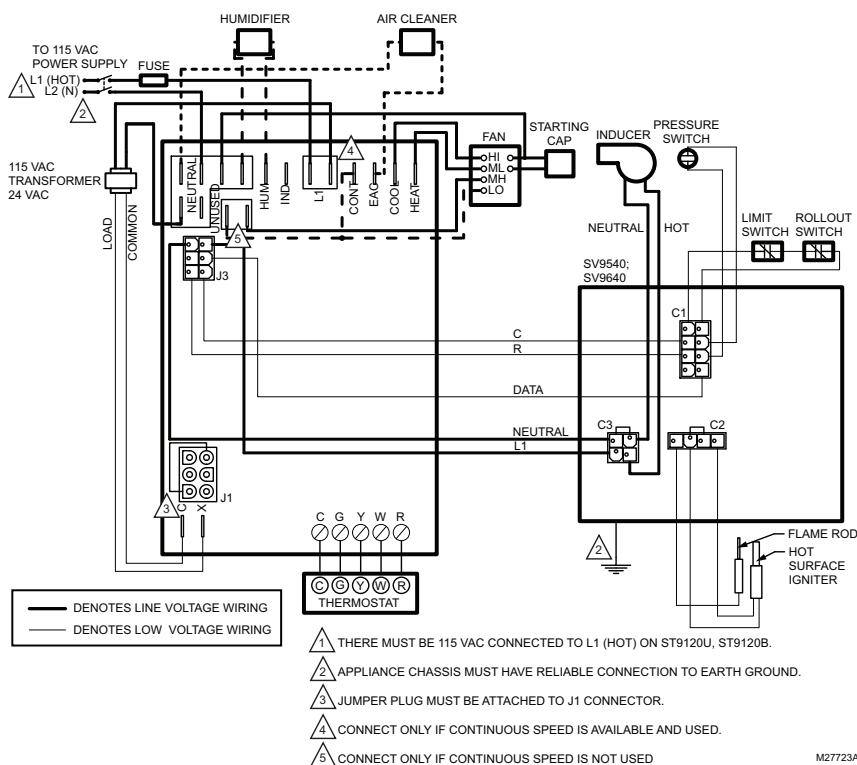

Fig. 5. Typical ST9120U,B wiring connections in ST9160 system with SV9510/SV9520 SmartValve™ Control.
5. Check proper connection using Fig. 5 or 6.
TROUBLESHOOT BY CHECKING FOR APPROPRIATE VOLTAGES AT THE ST9120U, ST9120B TERMINALS CONTROLLING THE COMBUSTION BLOWER AND HEAT AND COOL SPEED CIRCULATING FAN. THE ST9120U,B SCHEMATICS SHOW INTERNAL SWITCHING TO CLARIFY OPERATION AND ASSIST IN TROUBLESHOOTING. SEE FIGS 5 AND 6.
appropriate voltages at the ST9120U,B terminals controlling the combustion blower and heat and cool speed circulating fan. The ST9120U,B schematics show internal switching to clarify operation and assist in troubleshooting. See Figs. 5 and 6.